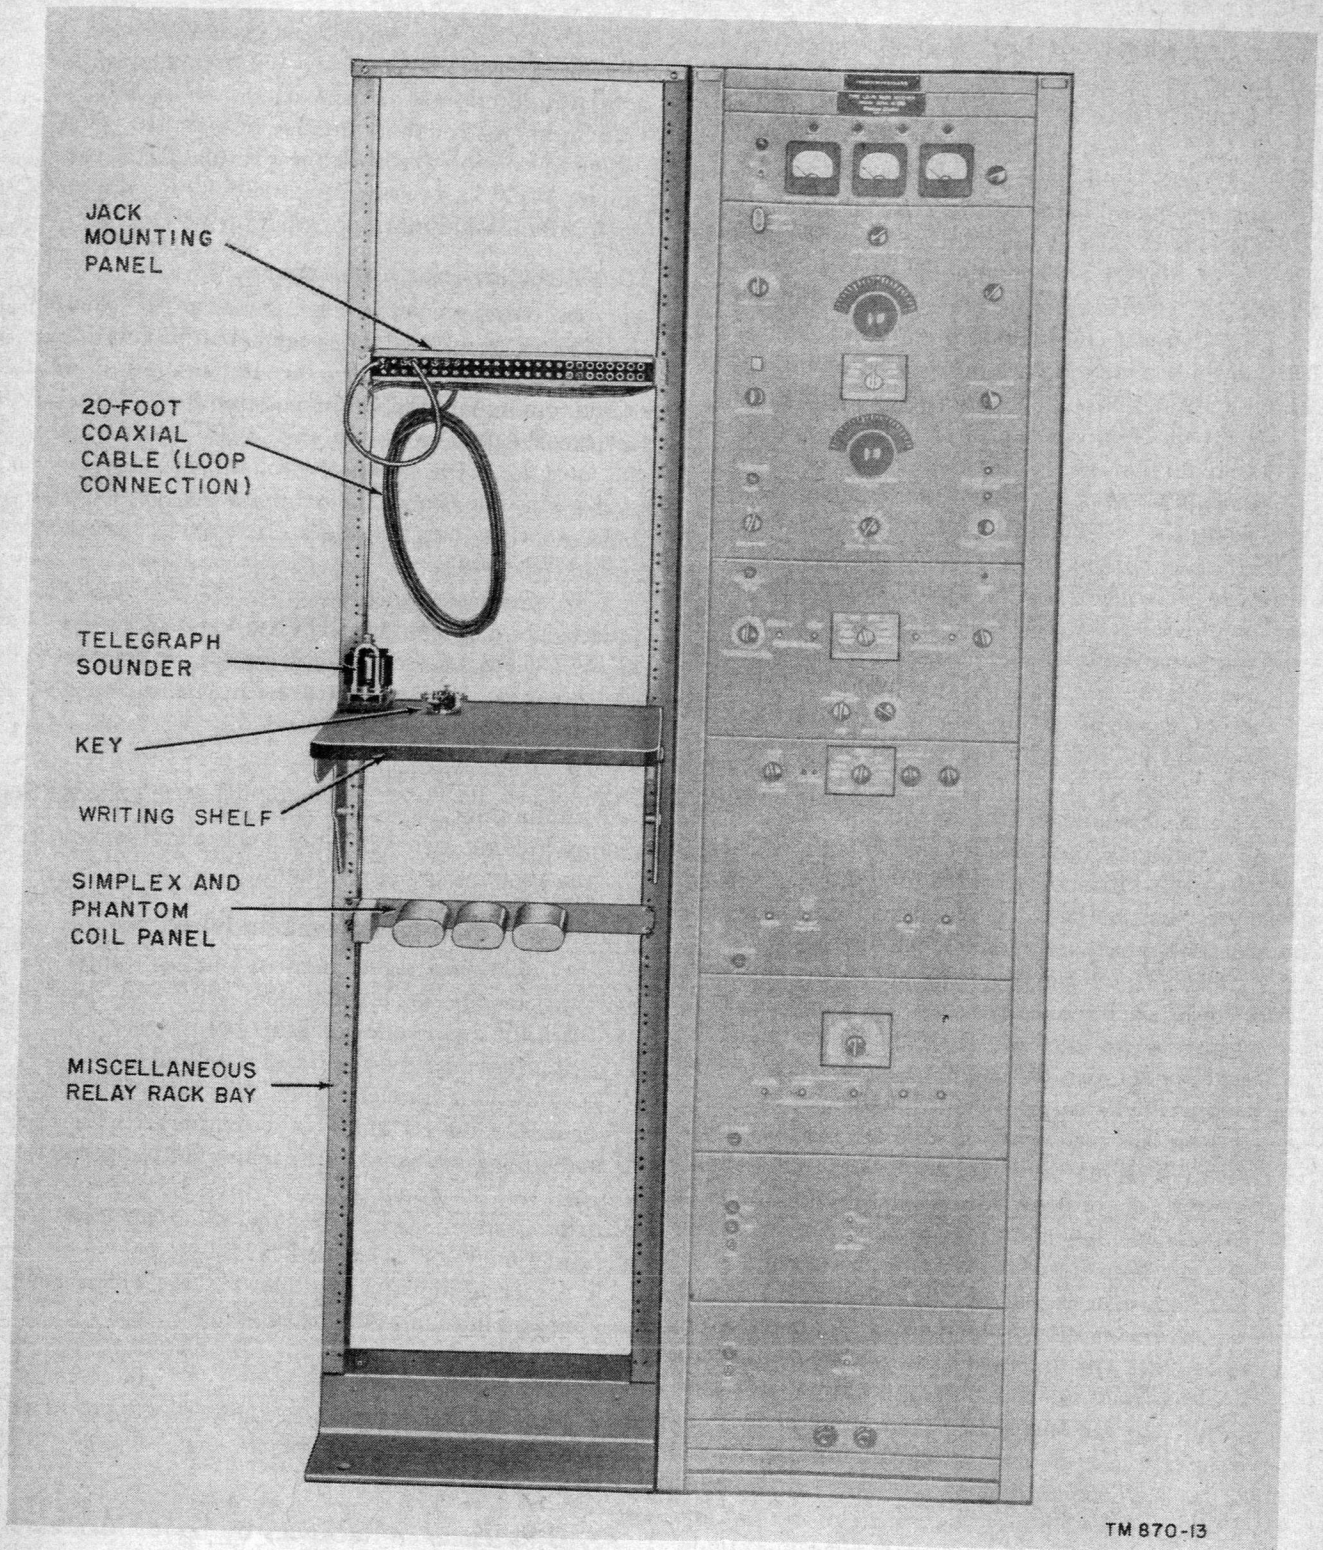

Figure 15. Miscellaneous relay rack bay, front view.
m. Miscellaneous Relay Rack Bay. The miscellaneous relay rack bay (fig. 15), 19 inches wide and 84 inches high, is usually mounted against the left side of the receiver. Components (*n* through *p* below) that aid in operating and testing the receiver are mounted on the bay.
q. Additional Components. Space is available for other panels such as a branching amplifier, sine amplifiers, communication receiver, and other additional components. Figure 15 shows one set of possible positions for installation of these panels; WECO drawing T-626698 shows another (preferable) installation position.
- (9) Close the rear door.
- (10) Insert the coaxial plug 341C into ANTENNA and REC INPUT jacks located in the upper left corner on the front panel of the receiver at panel 2.
f. Mounting Components of Miscellaneous Relay Rack Bay. Mount the components listed below on the miscellaneous relay rack bay as shown on WECO drawing T-626698 and figure 15. Compare figure 15 and WECO drawing T-626698. Note that the component locations shown on the WECO drawing and those in figure 15 do not correspond. Depending on the circumstances, other installation locations may be used by the installation personnel. Follow the layout given in the WECO drawing if circumstances permit. If they do not, locate the items as necessary. The electrical connections between components must be made in accordance with the instructions given in paragraph 19. To facilitate location (in the shipment) of the components whose installation is described below, see appendix I, the master packing list, Exhibit B-(*), or specification KME 5000, furnished with the shipment.
- (1) Mounting plate type 600-A.
- (2) Jack mounting type 230-A.
- (3) Writing shelf.
- (4) Jack space type 168-A.